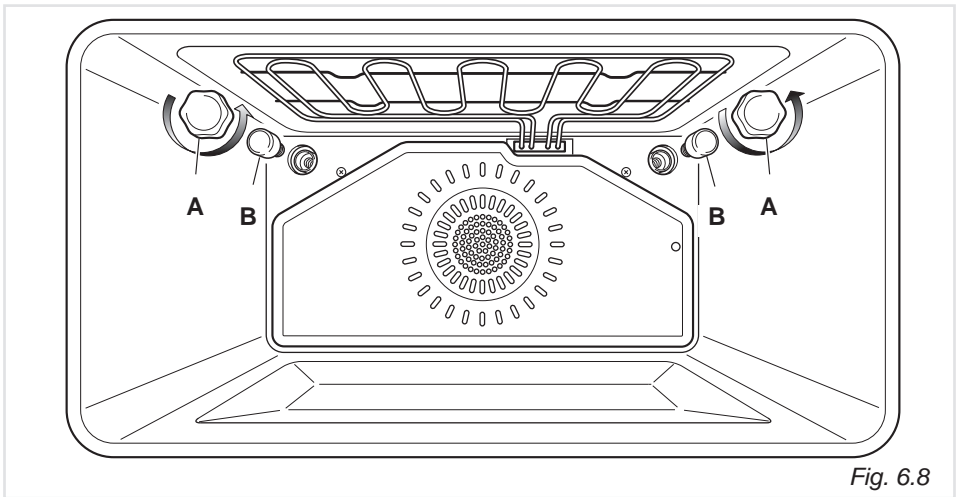

Fig. 6.8
- Demonter lampedekselet "A" (Fig. 6.8).